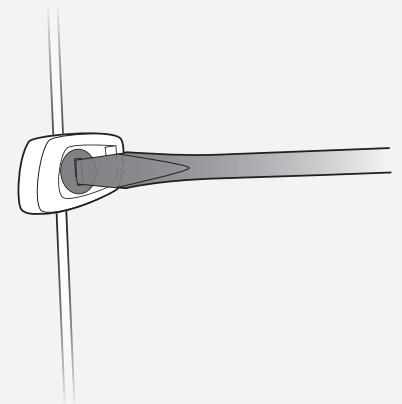

Figure 29. Tighten the Clamp Screw.
4. Tighten the clamp screw on the back of the magnet (Figure 29) to secure the position of the magnet.